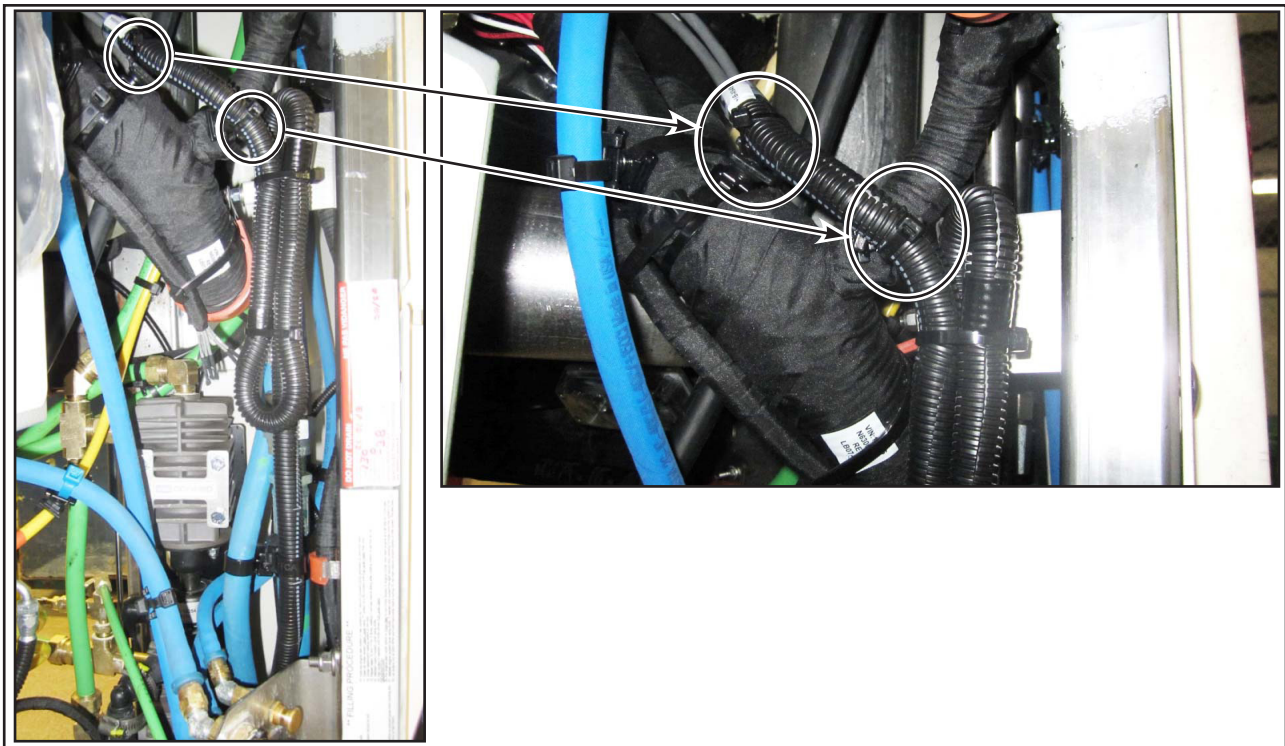

Figure 12 - Install Two Dual Spacer Swivels and Four Tie Wraps
1.12. Install two N56836 dual spacer swivels and four G5007995 tie wraps (see Figure 12).